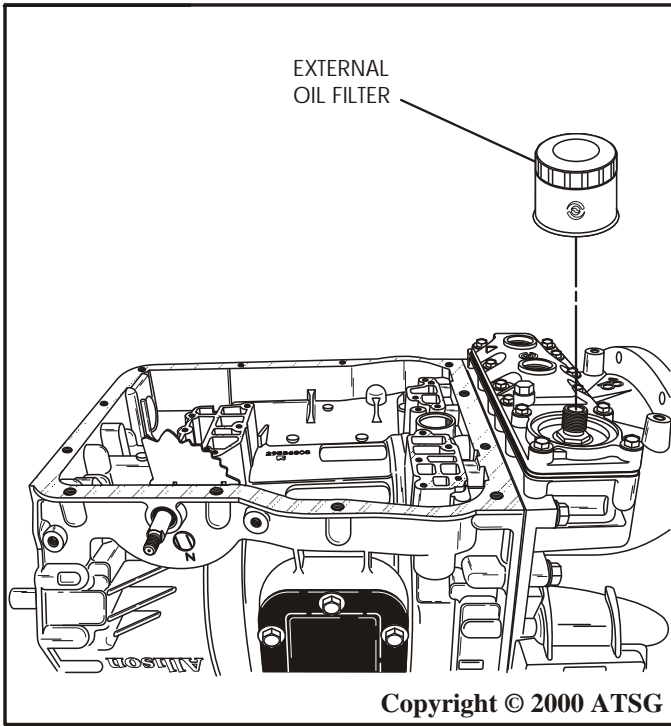

Figure 52
19. Remove the external oil filter from the cooler manifold or the bell housing, depending on the design, as shown in Figure 52.